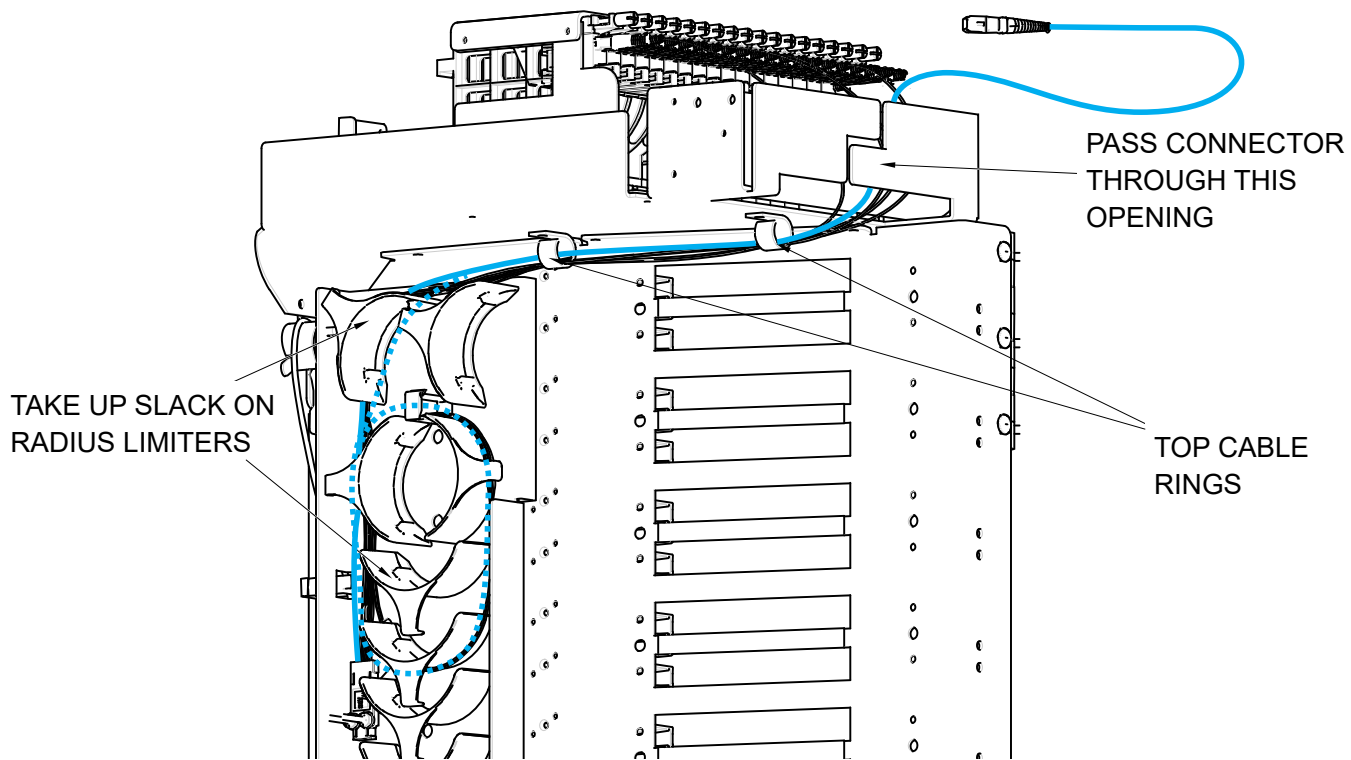

Figure 37. Re-Routing the Feeder Cable Fiber
17.7 When the feeder cable connector and fiber are free, pass the connector through the opening located behind the splitter compartment as shown in Figure 37.